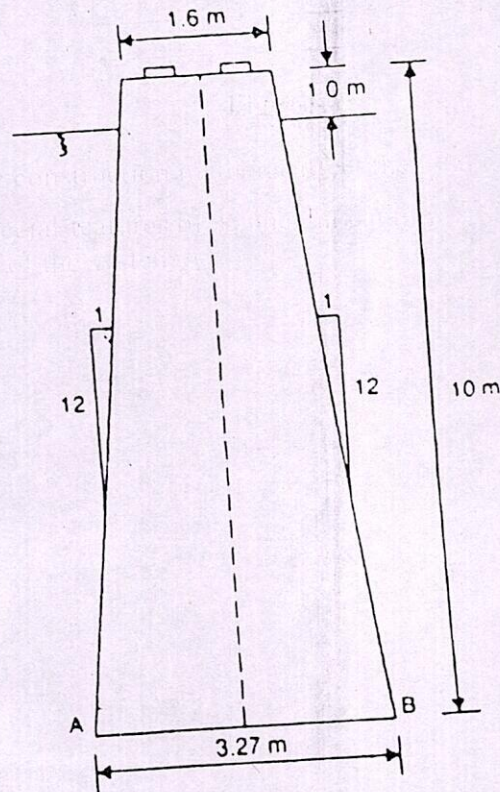

Figure-4
- VI. Verify the adequacy of the dimensions of the pier shown in Figure-4. The following details are available. [10]